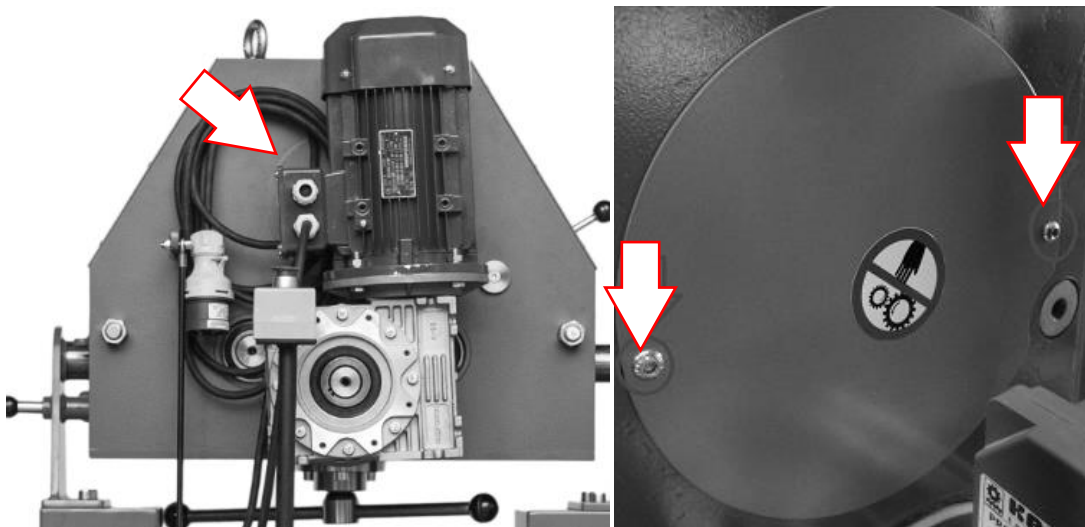
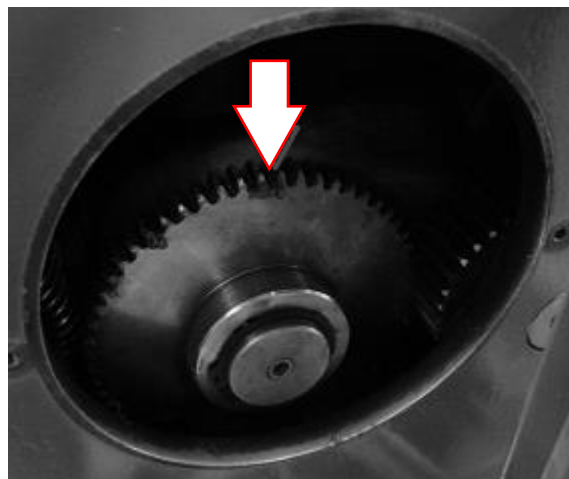

Fig. 22. Gear transmission cover
Fig. 23. Gear transmission inside the profile bending machine The arrow indicates the gear to which lubricant needs to be applied (on its teeth).
- After every 80 hours of work, unfasten the cover from the rear of the machine's body, then apply lubricant to the gear found inside the machine (fig. 23) using a brush.
To perform this type of maintenance, remove the cover found on the rear of the housing of the machine by unfastening 2 socket head screws (fig. 22). Make sure that a layer of solid lubricant is always present between interoperating gears. Figure 23 indicates the location where lubricant is to be applied into the transmission. After applying lubricant to the gear and closing the cover, engage drive to the top roll and start the machine so that lubricant can spread through the entire transmission.